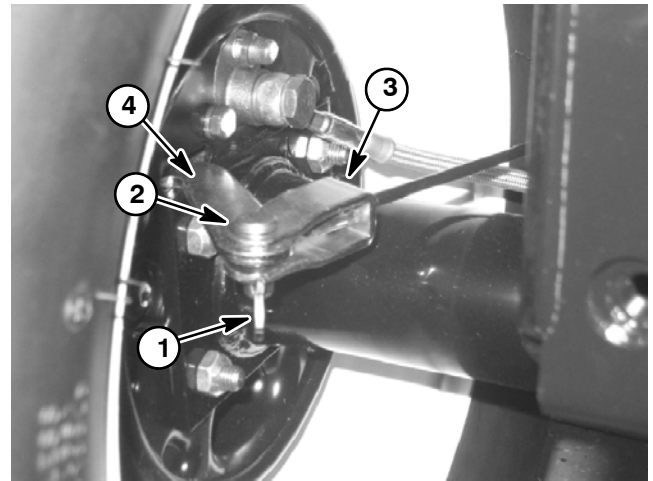

Figure 2
3. Remove five (5) lug nuts, wheel assembly and brake drum from the wheel hub.
4. Remove cotter pin and flange nut that secure wheel hub (item 7) to the transaxle shaft.
A. Remove cotter pin and clevis pin securing the parking brake cable bracket to the brake actuator lever (Fig. 2).
C. Remove four (4) socket head screws and lock nuts securing the brake assembly to the transaxle. Remove brake assembly from the transaxle.
IMPORTANT: The parking brake actuation levers should be positioned above the transaxle mount. When positioned correctly, the levers will point toward the rear of the vehicle (Fig. 2).
C. Secure parking brake cable bracket to the brake actuator lever with clevis pin and cotter pin (Fig. 2).